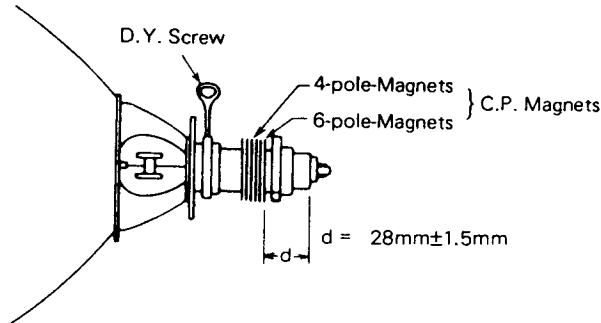

Fig. 8
- (1) Remove the deflection yoke and the rubber wedges from the picture tube cone with care not to strike or scratch the cone.
- (2) Clean the cement remaining on the deflection yoke or the surface of the picture tube cone by means of appropriate solvent.
- (3) Tune receiver to a cross-hatch signal.
- (4) Fit the deflection yoke on the neck of picture tube and push toward the cone.
- (5) Fit C.P. (Magnet) Assembly to the neck of the picture tube and fasten the screw at the position with a distance between 6-pole magnet end and the base of picture tube as shown in Fig. 8.
- (6) Demagnetise at the front and sides of the picture tube with a degaussing coil.